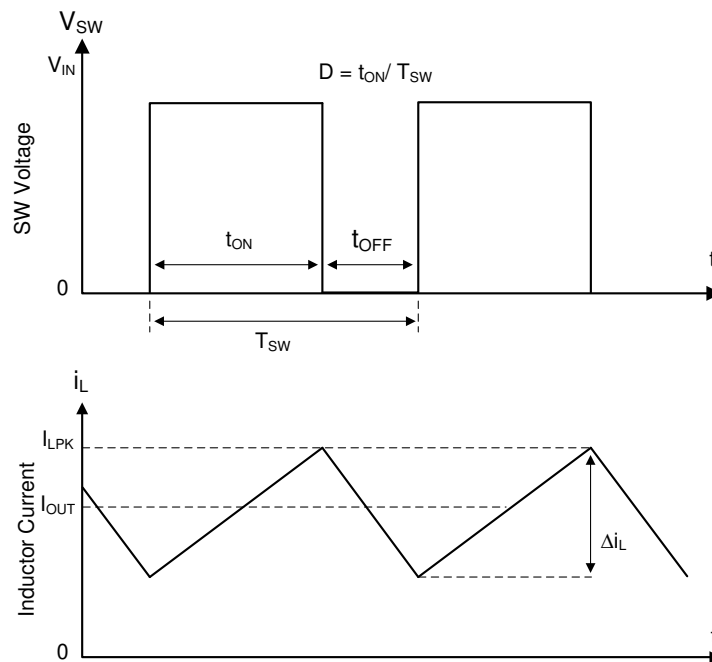

図 7-1. SW Node and Inductor Current Waveforms in Continuous Conduction Mode (CCM)
The following operating description of the LMR516x5 refers to セクション 7.2 and to the waveforms in 図 7-1. The LMR516x5 is a step-down, synchronous, buck converter with integrated high-side (HS) and low-side (LS) switches (synchronous rectifier). The LMR516x5 supplies a regulated output voltage by turning on the high-side and low-side NMOS switches with controlled duty cycle. During high-side switch ON time, the SW pin voltage swings up to approximately V_{IN} , and the inductor current, i_L , increases with a linear slope of $(V_{IN} - V_{OUT}) / L$. When the high-side switch is turned off by the control logic, the low-side switch is turned on after an anti-shoot-through dead time. Inductor current discharges through the low-side switch with a slope of $-V_{OUT} / L$. The control parameter of a buck converter is defined as Duty Cycle $D = t_{ON} / T_{SW}$, where t_{ON} is the high-side switch ON time and T_{SW} is the switching period. The converter control loop maintains a constant output voltage by adjusting the duty cycle D . In an ideal buck converter, where losses are ignored, D is proportional to the output voltage and inversely proportional to the input voltage: $D = V_{OUT} / V_{IN}$.